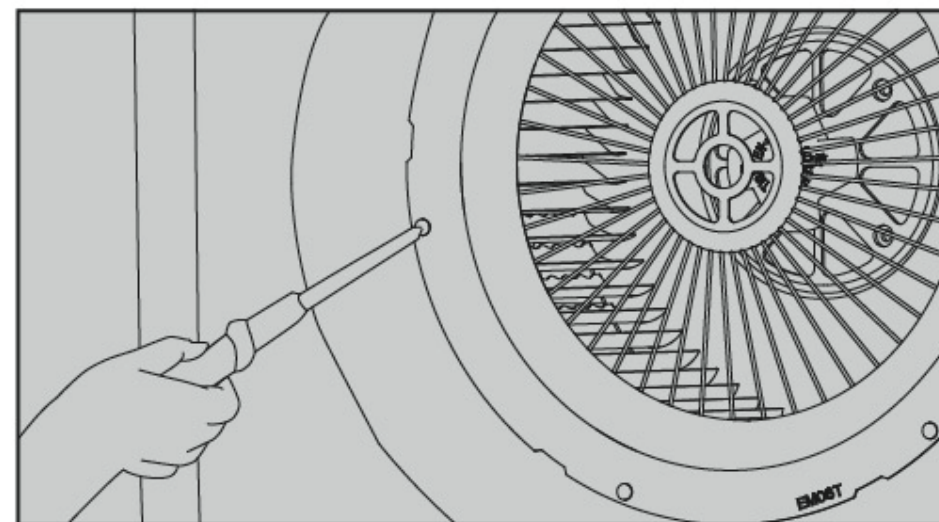

Fig.6
5. Unscrew the screws fixing on the air input ring, and remove the air input ring(see Figure 6).